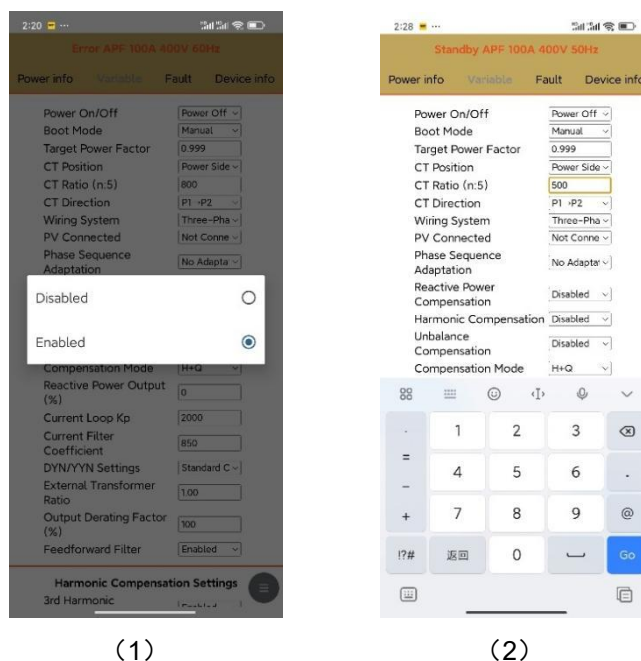

Figure 11 Set Variables
4. As shown in Figure 11(1), when the dropdown box variable is clicked, options will appear and the setting can be completed after clicking; as shown in Figure 11(2), for the numerical variable, after inputting the value, it needs to be confirmed or enter on the keyboard to complete the setting. Multiple variables cannot be set simultaneously.